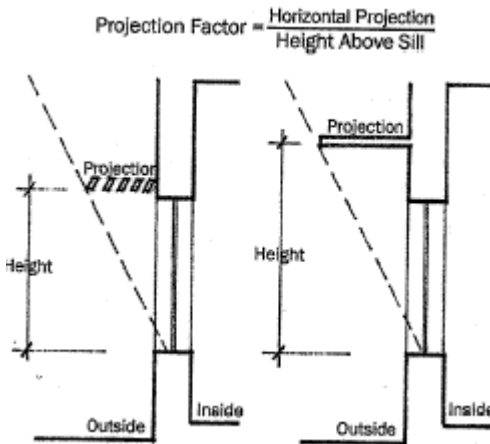

Figure 4: Overhang Projection Factor
- Overhangs with a projection factor of 0.5 should be used on south facing windows (see Figure 4).